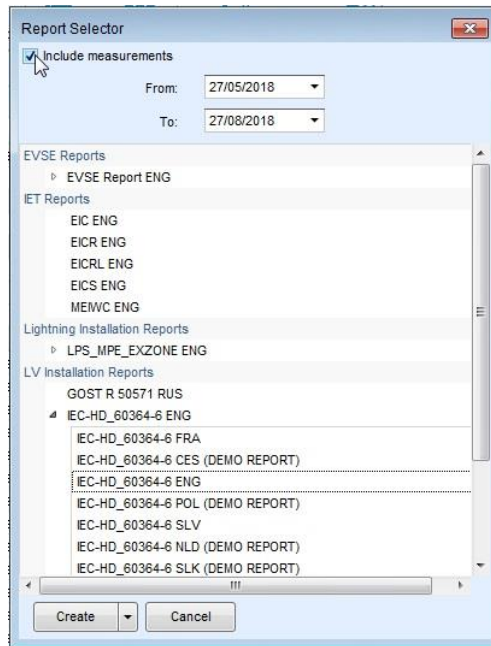

Figure 10.1: Report selector box
Metrel ES Manager supports comprehensive test reports that consist of inspection pages and test result pages. Reports are Data structure forms, based on predefined templates according to national standards or the rules of regulatory organisations. They are saved in /reports subdirectory of Data structure file. Printing and pdf creating functionality of the Reports depends on the instrument licence key rights, with which tests were carried out; if insufficient, Report is marked with (DEMO REPORT) in its name extension, see **Figure 10.1**.
- Click on  icon within Reports group of Home menu tab to open Report selector dialog box, **Figure 10.1**.